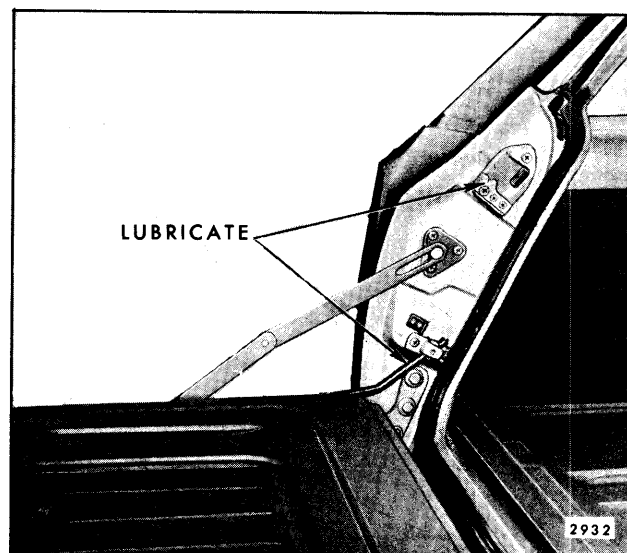

Fig. 2-10—Tail Gate Lock Striker and Torque Rod
2. Apply a thin coat of grease stick lubricant (Doorease or equivalent) to the contact surfaces of the striker teeth (Fig. 2-10).
1. Apply white lithium soap grease (Lubriplate 630 AAW or equivalent) to the circumference of the tail gate torque rod which passes through the nylon guide as indicated in Figure 2-10.